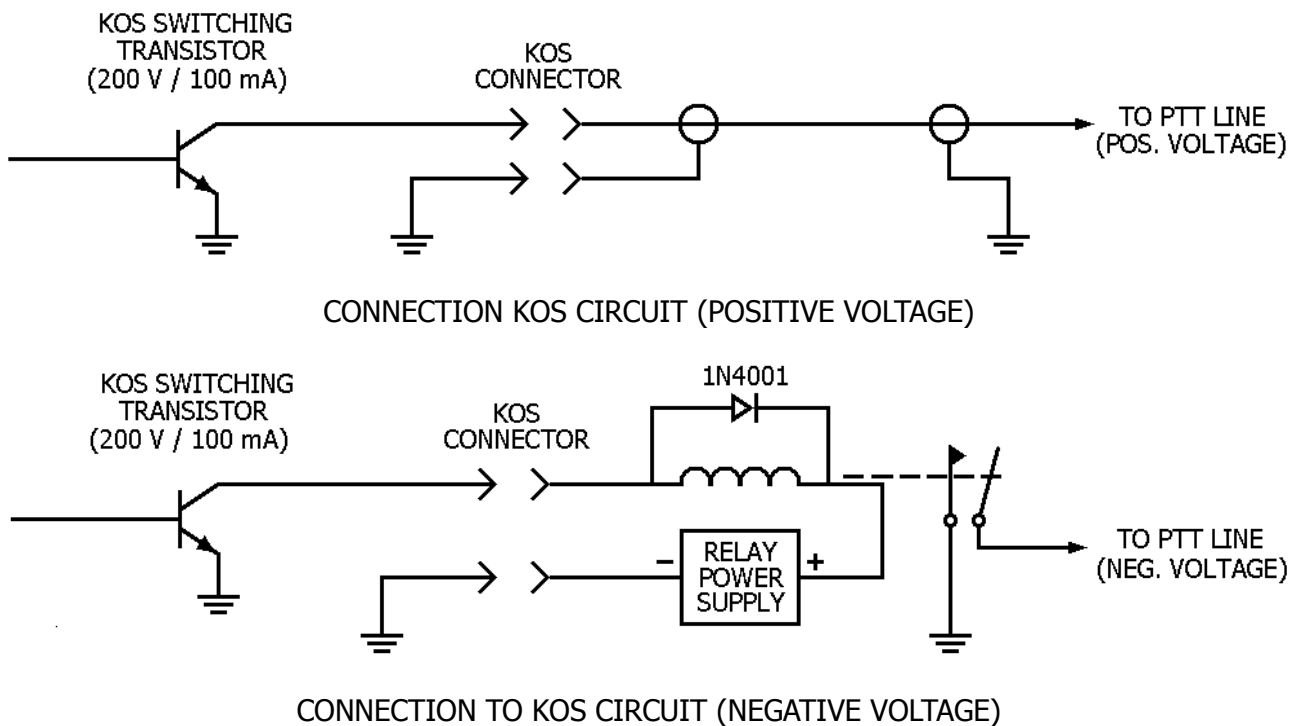

Figure 5 – KOS Circuit Connections
4. A shielded cable between the transmitter microphone push-to-talk (PTT) input and the CWR6850 SW. OUT - REMOTE connector (KOS for Keyboard Operated Switch). The other half of the stereo cable used for transmit audio can be used for this connection. As above, consult the transmitter manual for connector and pin numbers. The NPN transistor KOS switch will only switch positive voltage PTT circuits directly; negative voltage PTT circuits will require an external relay. This relay may be connected as shown in Figure 5.
The connection of the tape recorder to the CWR6850 is shown in Figure 5. Use shielded cables for these connections; include RF and safety grounds to minimize any RF pickup in the tape recorder.